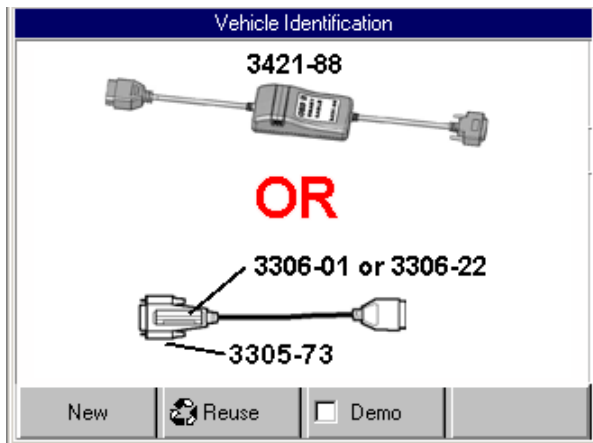

Figure 3.9: Vehicle Information - Required Cables Screen
- b Select the vehicle description to use and press the **ENTER** key. This displays the illustration of the required cables (Figure 3.9 on page 17).